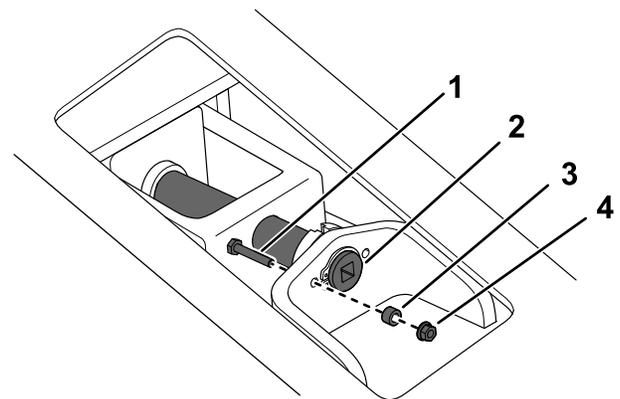
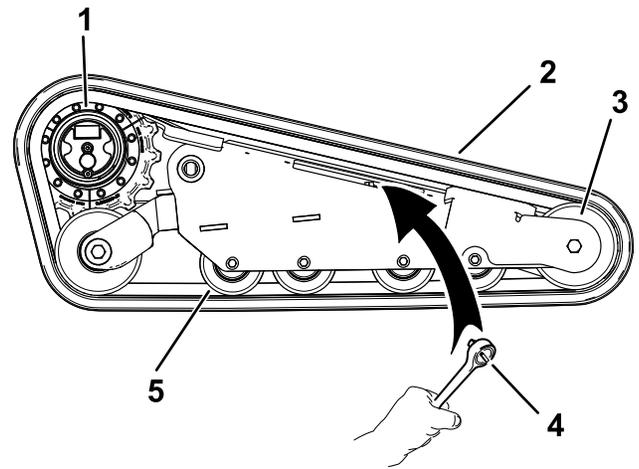

Figure 70
Figure 72
- Remove the locking bolt, spacer, and nut (Figure 70).
- Align the notch in the tension screw to the nearest locking-bolt hole and secure the screw with the locking bolt, spacer, and nut (Figure 70).
6. Remove the locking bolt, spacer, and nut (Figure 70).
7. Using a 1/2-inch drive ratchet, release the drive tension by turning the tensioning screw clockwise (Figure 70 and Figure 72).
1. Wrap the new track around the front wheel (Figure 72).
2. Push the track under and between the road wheels and wrap it around the rear tension wheel (Figure 72).